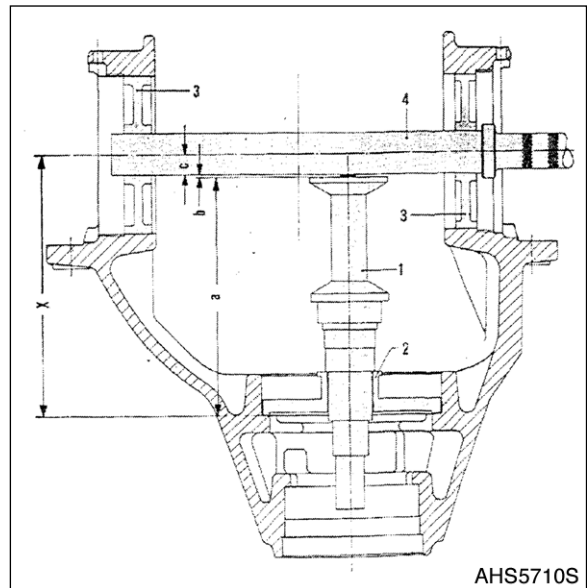

Figure 197
NOTE: *When replacing a complete crown wheel set or axle carrier, pay attention to the Figure 197.*
1. Install adjusting pieces (3) and temporarily fasten the two bearing caps. Install thrust washer (2) and measuring pin (1) and introduce measuring shaft (7), see Figure 197.